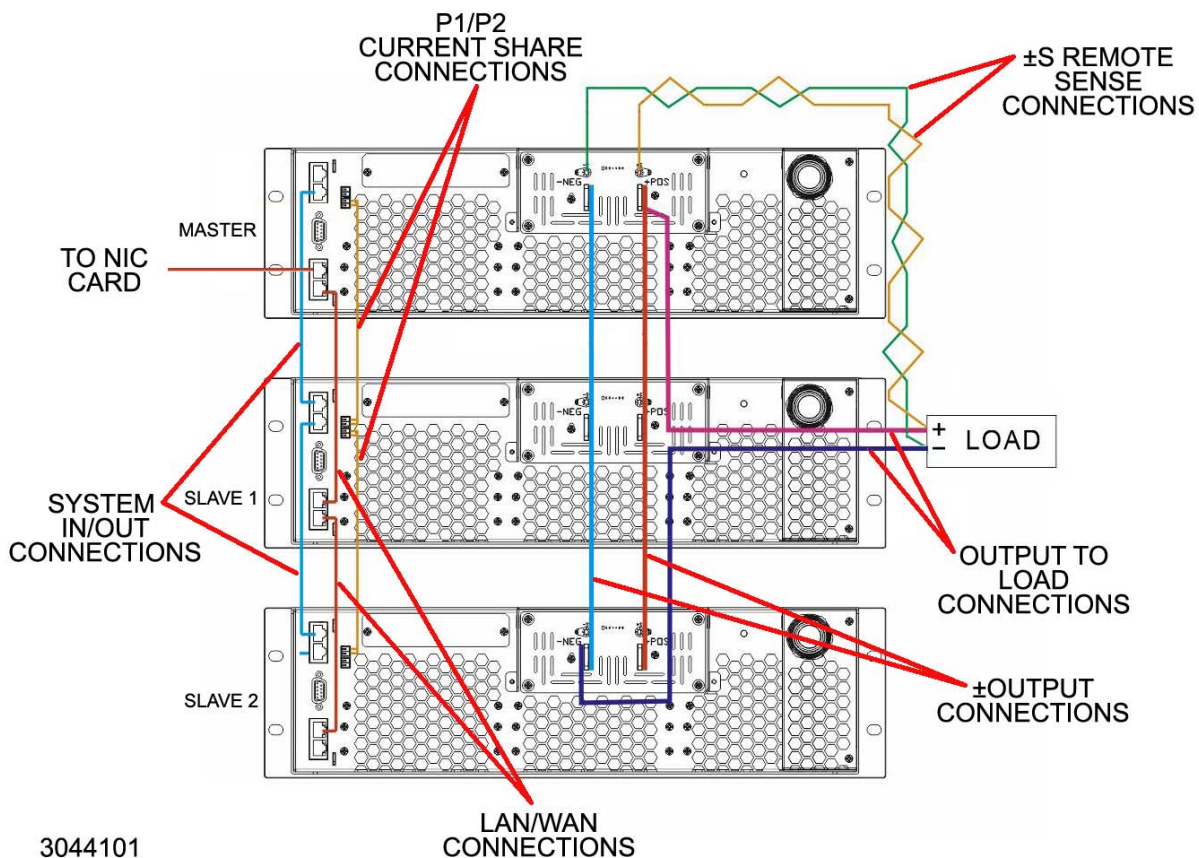

FIGURE 2-21. PARALLEL CONNECTIONS
Figure 2-21 shows a typical configuration for three units in parallel with remote sensing. See PAR. 2.5.6 for guidelines regarding load connections. See PAR. 3.6.3 for instructions on operating units connected in parallel. The top unit in the stack is the master. Only the sense terminals of the master are connected to the load and only the master is connected to the computer via a NIC card for remote control of the parallel-connected units.
1. Turn on the last slave (Slave 2 of Figure 2-21) and configure the unit as a Slave (see PAR. 3.4.3).
2. Turn on the next slave (Slave 1 of Figure 2-21) and configure the unit as a Slave. Repeat as necessary for all the slaves in the network.